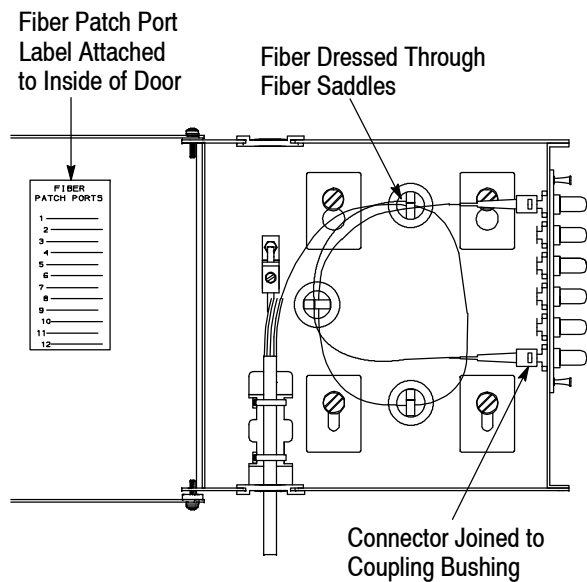

Figure 6
4. Dress the fiber through the wire saddles, and terminate the fibers to connectors according to the instructions supplied with the connectors. See Figure 6.
5. Join the connectors to the coupling bushings starting at either end of the adapter plate. Make sure that each connection is secure. See Figure 6.
6. Record the connector positions using the ‘fiber patch port’ label. Attach the label to the inside of the enclosure door. See Figure 6.